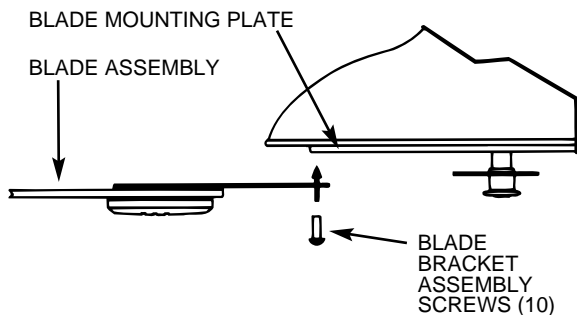

Figure 8B
C. Attach each blade assembly to the blade mounting plate at the bottom of the fan using (2) #10-32 x 1/2" long phillips round head screws with lockwashers. See Figure 8B. Tighten the assembly screws securely.
NOTE: After installing all the blades, check the (10) blade bracket assembly screws which attach the brackets to the motor. Make certain they are tight. See Figure 8B.